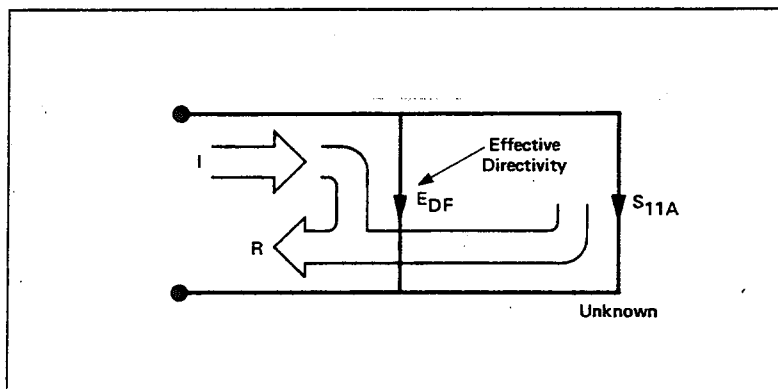

Figure 7-51. Effective Directivity EDF
Directivity error. However, all of the incident signal does not always reach the unknown (see Figure 7-51). Some of (I) may appear at the measurement system input due to leakage through the test set or other signal separation device. Also, some of (I) may be reflected by imperfect adapters between signal separation and the measurement plane. The vector sum of the leakage and miscellaneous reflections is directivity, EDF. Understandably, the measurement is distorted when the directivity signal combines vectorially with the actual reflected signal from the unknown, S_{11A} .